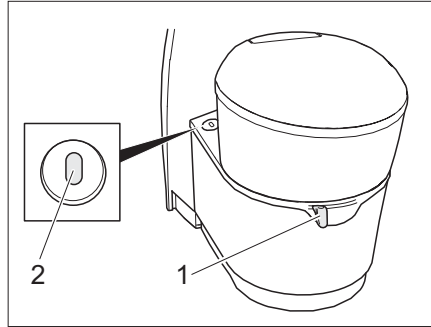

Fig. 132 Thetford toilet bowl, swivelling
- Before using open the sliding trap of the Thetford toilet. To do this, push the slide lever (Fig. 132,1) anticlockwise.
The display (Fig. 132,2) becomes red when the Thetford cassette has to be emptied.
- Push the slide lever (Fig. 132,1) in a clockwise direction. The sliding trap is closed. To empty, the sliding trap of the Thetford toilet **must** be closed.